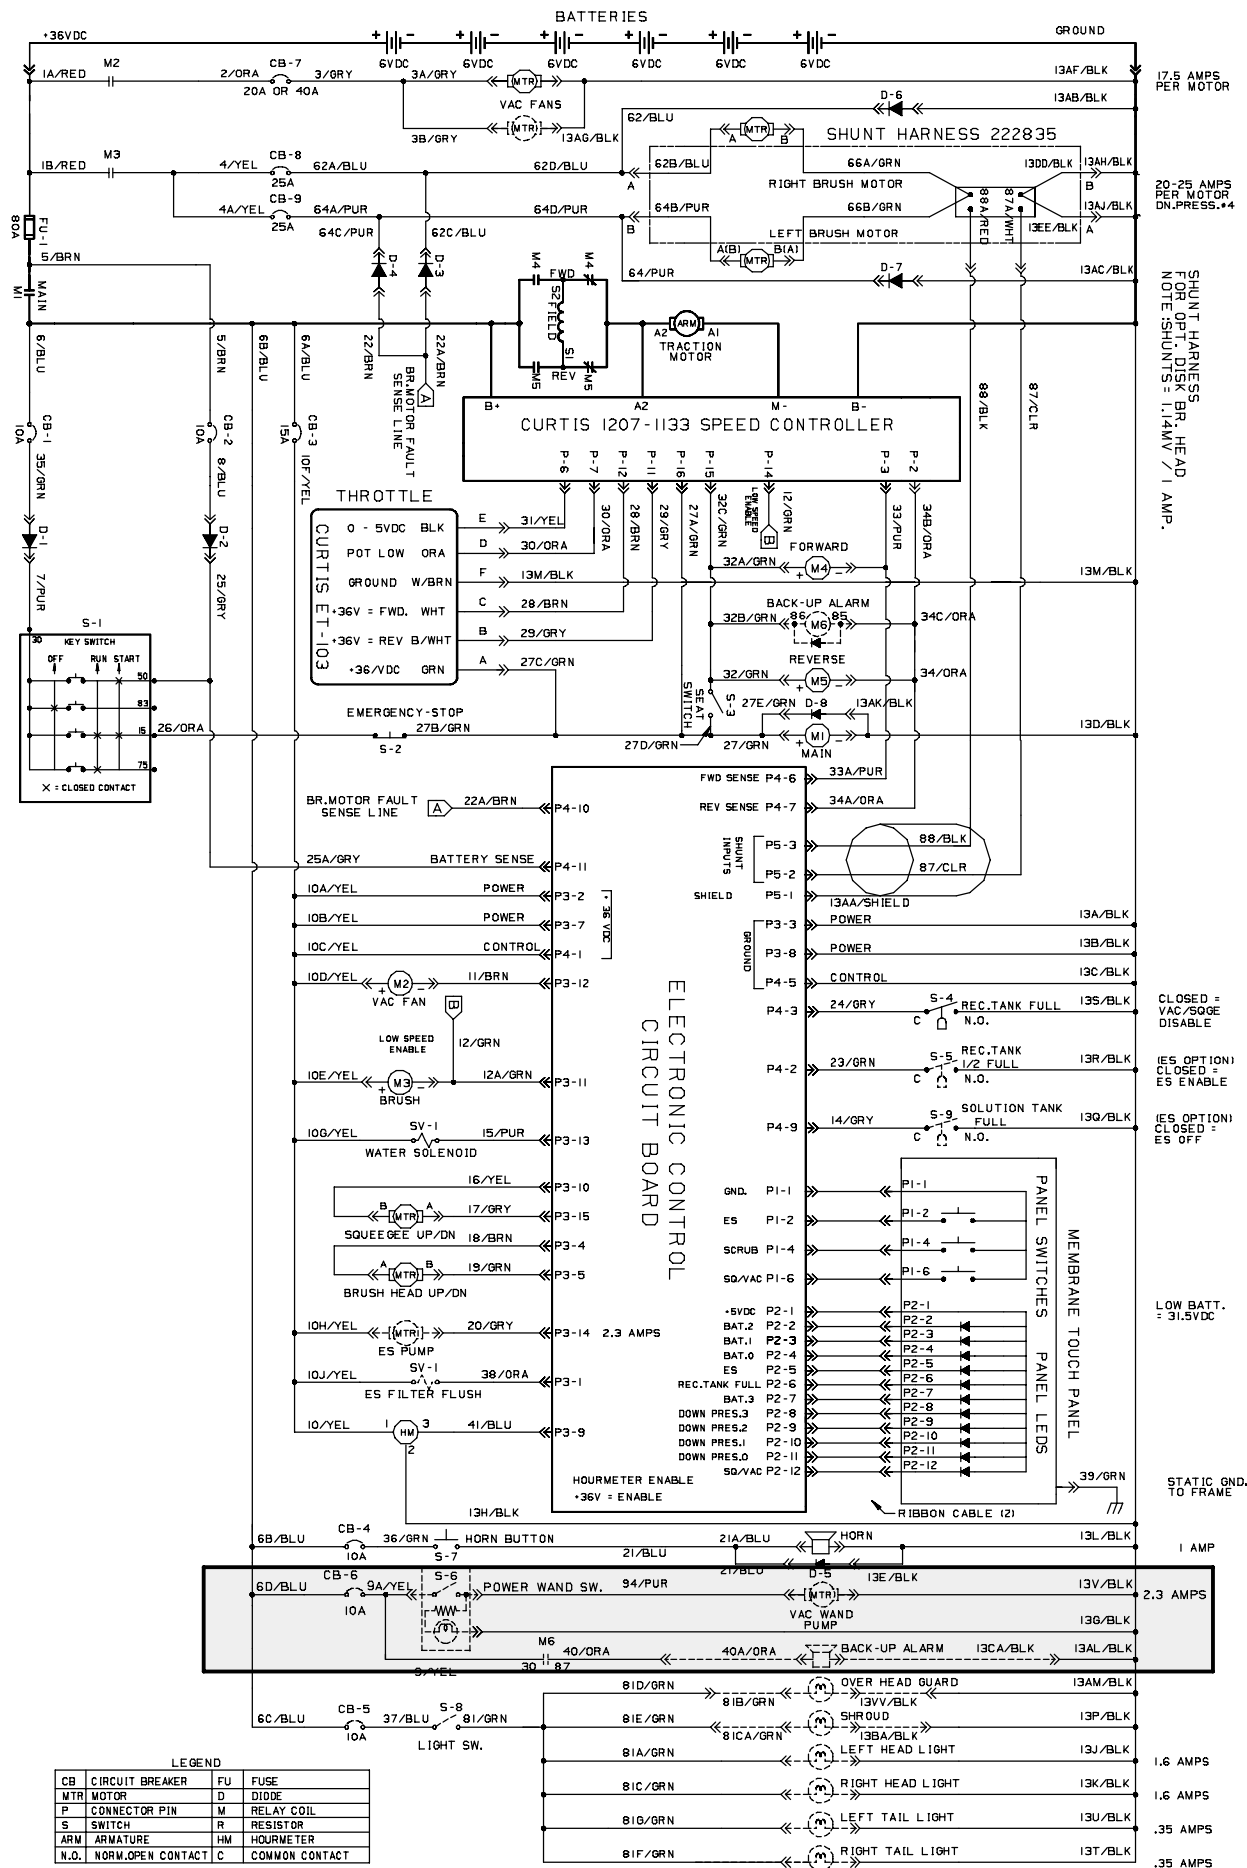

FIG. 9 - Electrical Schematic
3. Connect the switch (3) to wires 94/PUR, 13G/BLK, 9A/YEL, and 9/YEL. (Refer to FIG. 9)
4. Connect the circuit breaker (1) to wires 9A/YEL and 6D/BLU. (Refer to FIG. 9)